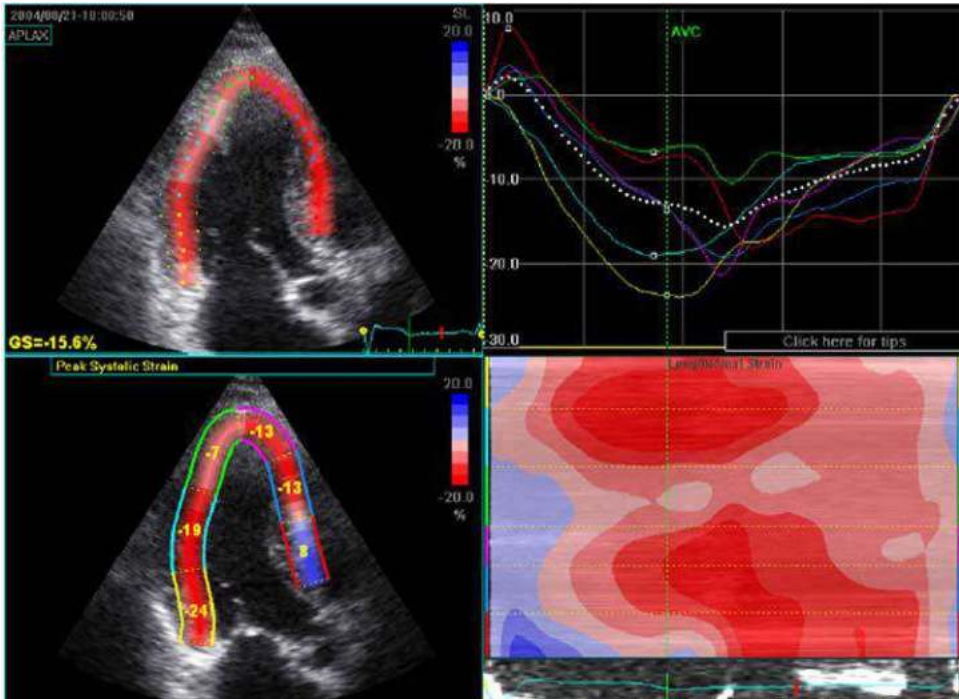

Figure 13-109. Quad screen for the APLAX view
- Quad screen (see Figure 13-109 on page 13-235) displaying: